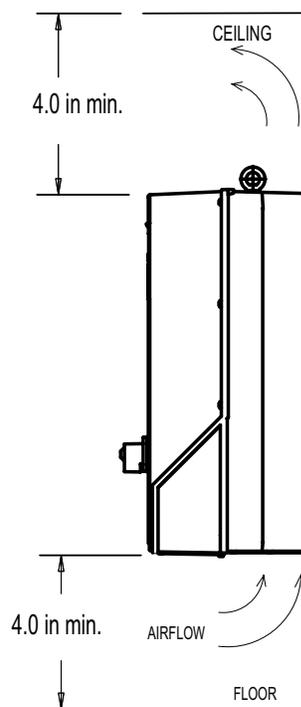

Figure 3-5. Cooling Airflow
- Top and bottom clearance is required for cooling (Figure 3-5). Generally, 4 to 10 inches (100 to 250 mm) minimum clearance is required, depending upon the hp (kW) of the unit. See the mechanical drawing shipped with the unit for specific requirements.